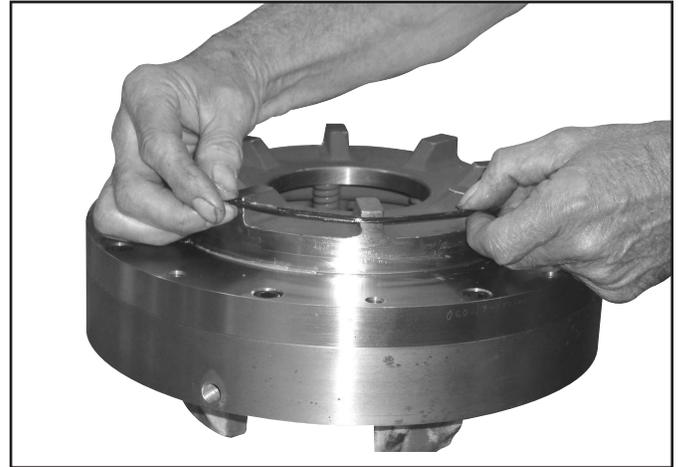

Figure 6 - Installing O-Ring (#33)
1. (MB-250) Lubricate the O-ring (#33) with Vaseline or equivalent and install into the O-ring groove in Housing (#8). (MB-280, MB-320) Lubricate the O-ring (#33) with Vaseline or equivalent and install it onto the Piston Assembly (See Figure 6).